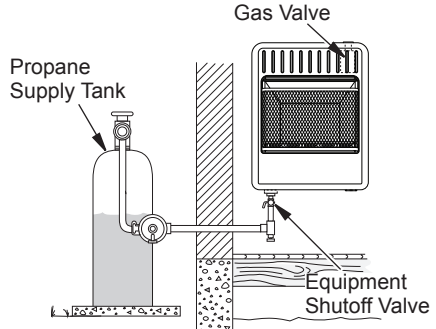

Figure 19 - Checking Gas Joints for Propane Gas
3. Check all joints from gas supply (see Figure 19 or 20) to equipment shutoff valve. Apply a noncorrosive leak detection fluid to all joints. Bubbles forming show a leak.
4. Check all joints from equipment shutoff valve to control valve (see Figure 19 or 20). Apply a noncorrosive leak detection fluid to all joints. Bubbles forming show a leak.